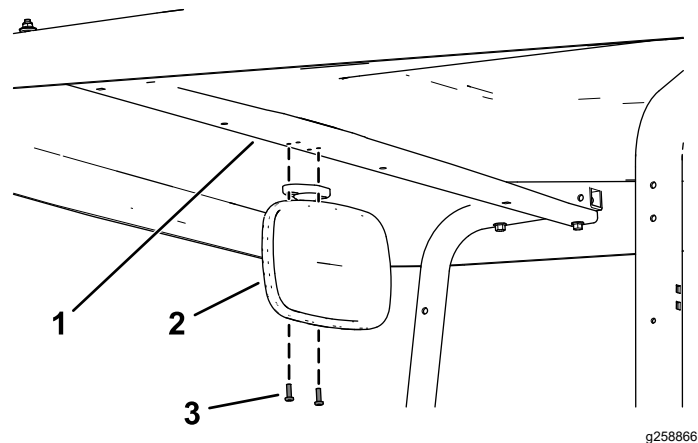

Figure 1
2. Secure the mirror assembly to the canopy support bracket using the 2 Phillips-head screws (#10 x 5/8 inch) as shown in Figure 1.